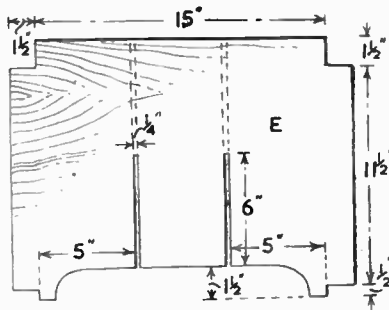
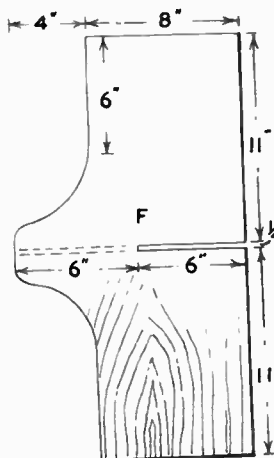

FIG. 6. THE SHELF
FIG. 7. THE PARTITION SHAPE
marked out as shown in fig. 6. Before marking out, check on the inside measurements of the frame to make sure that there have been no errors. The curved portion and the halving slots can be cut out with a fretsaw. This part, which is the shelf (piece E) can now be screwed firmly in place as shown in Fig. 3. The partitions (F) are then marked out and cut to shape from 1/4 in. board as shown in Fig. 7. These can be fixed in place when the back and sides, etc., are in position. The final step before covering the frame is to round off the corners (pieces B) as shown in the front elevation, Fig. 1, and